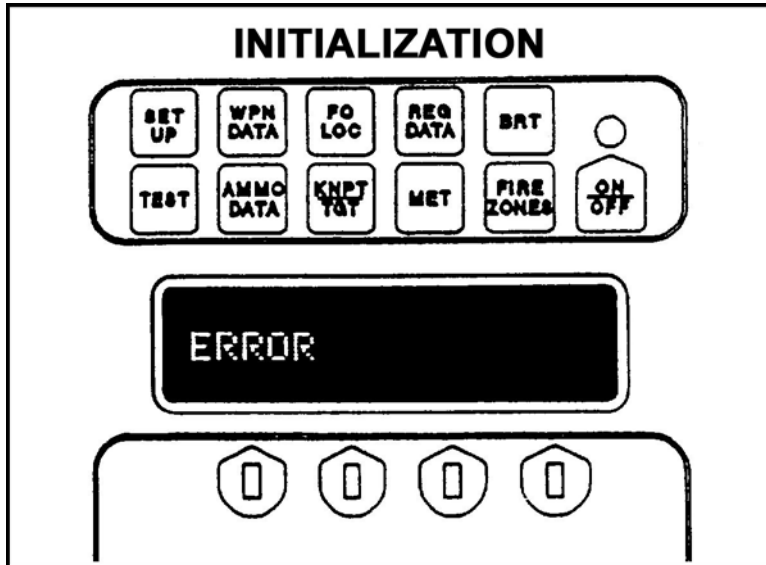

Figure 9. Error display.
- d. If during the test you happen to press the wrong switch or if the switch is not working, the display will read ERROR (Figure 9). Press the right switch to correct this.